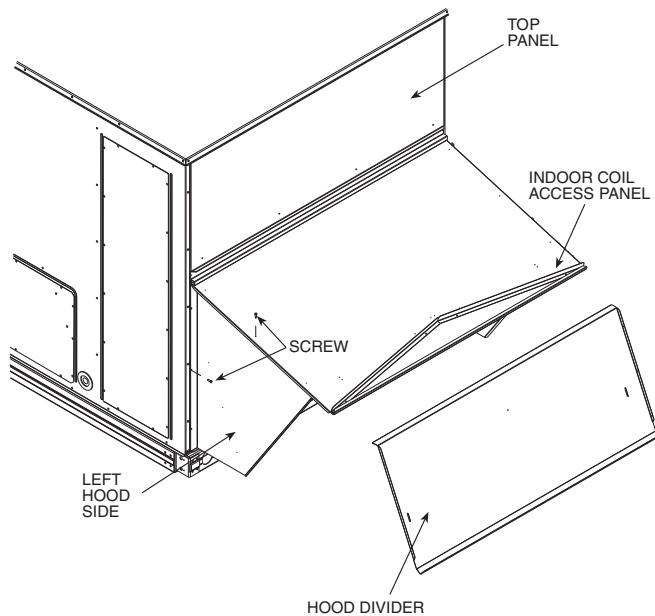

Fig. 16 — Economizer Hood Construction
2. Swing out indoor coil access panel and insert the hood sides under the panel (hood top). Be careful not to lift the panel too far as it might fall out. Use the screws provided to attach the hood sides to the hood top. Use screws provided to attach the hood sides to the unit. See Fig. 16.
4. Insert the hood divider between the hood sides. See Fig. 16 and 17. Secure hood divider with 3 screws on each hood side. The hood divider is also used as the bottom filter rack for the aluminum filter.